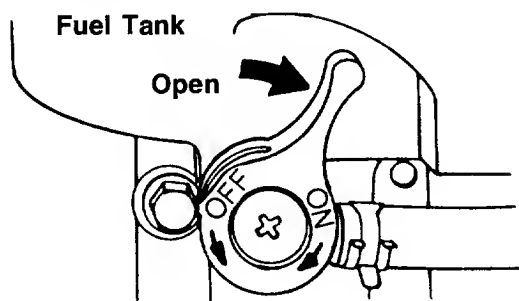

FIGURE 14.
2. Open fuel shut-off valve. See figure 14.